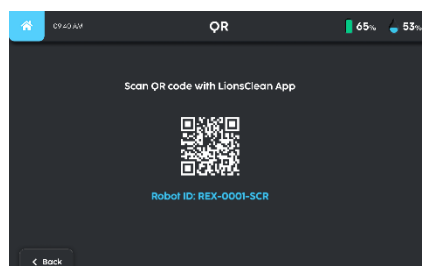

Fig. 2
2. Scan the QR code provided on the robot's Touchscreen, aligning it inside the green box on the app screen as shown (Fig. 2).